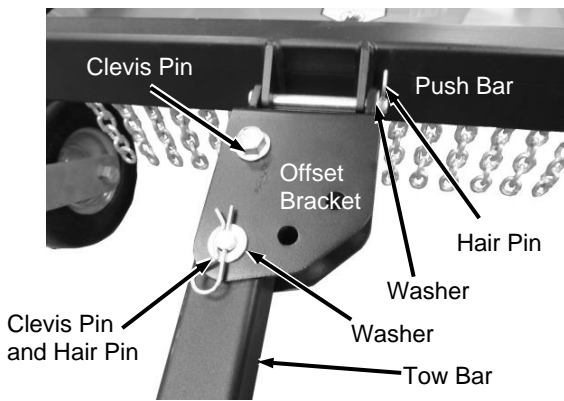

Figure 15
1. Secure the Offset Bracket to the Push Bar in the configuration shown (for left side offset) using the 4.5 in long Clevis Pin, Washer, and Hair Pin (**Figure 15**).